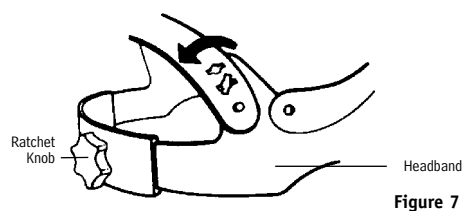

Figure 7
4. Rotate crown strap 90° to secure key in keyhole (see Figure 7).